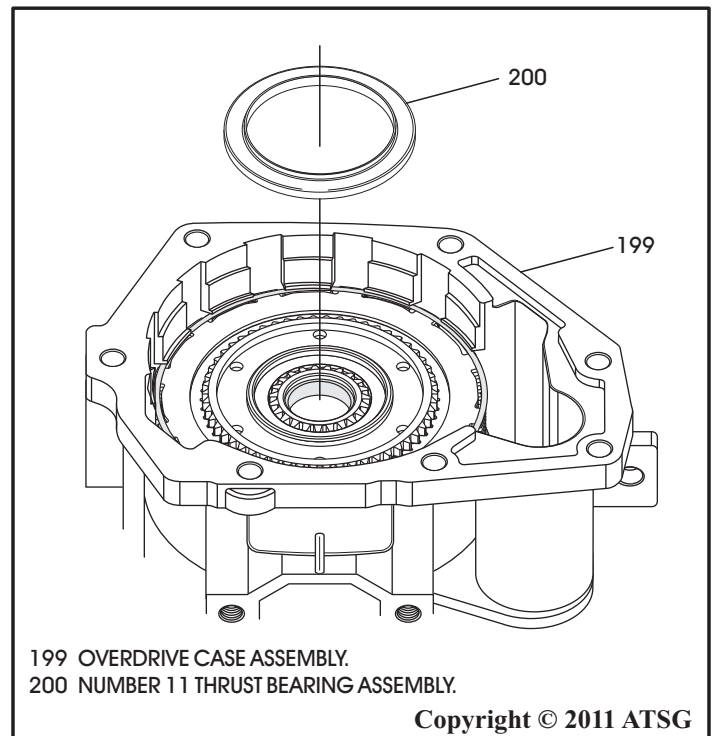

Figure 147
3. Remove the number 11 thrust bearing, as shown in Figure 147.